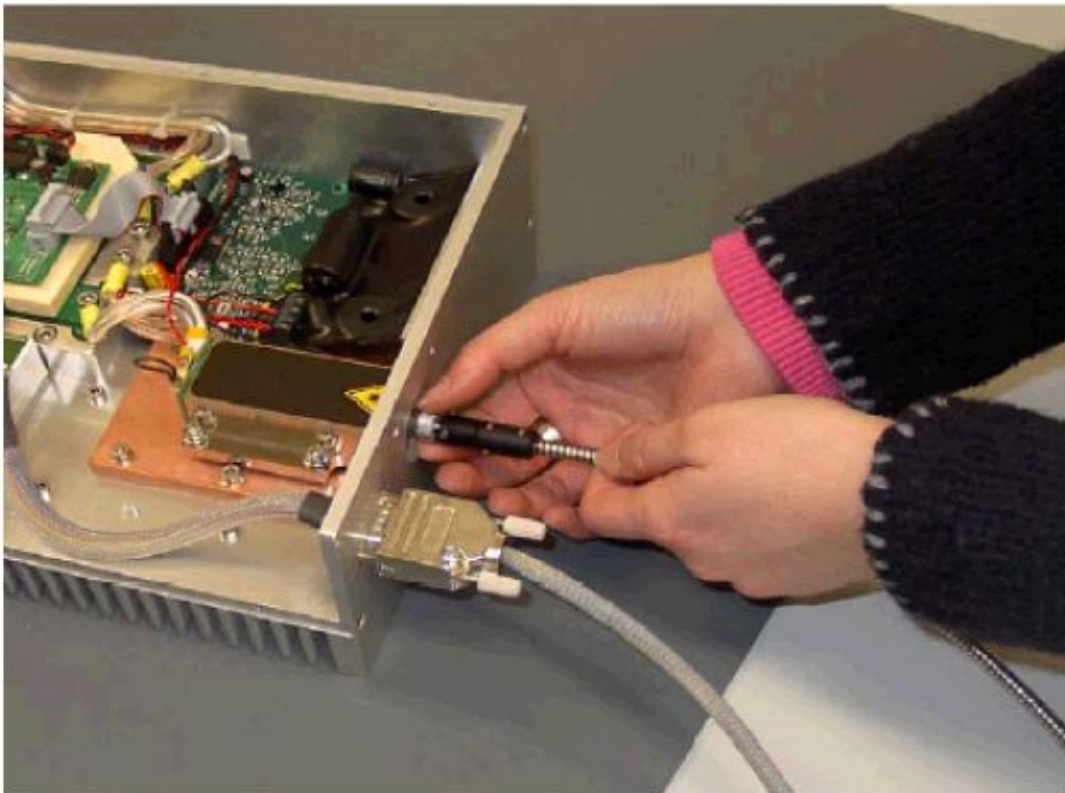

fig. 6
5) Detach the optical fiber from the diode laser using one hand to hold the fiber while unscrewing the SMA ring-nut [fig.6]
17) Take off the SMA cap and connect the optical fiber (with the same procedure as before). [as fig.8 and fig.6]